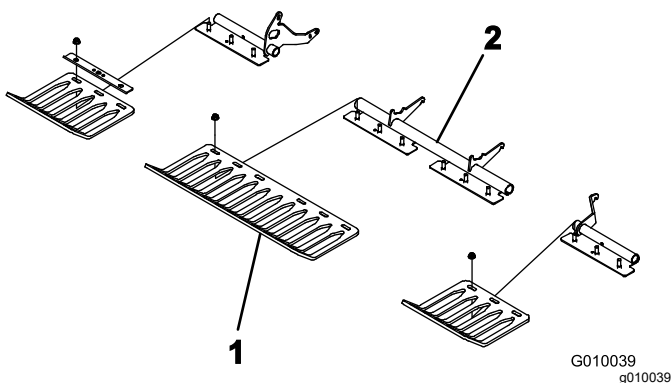

**Figure 24**
3. Mount a tine holder to each tine arm (Figure 24) with 3 bolts (1/2 x 1-1/4 inches). Torque the bolts to 101.6 N·m (75 ft-lb).